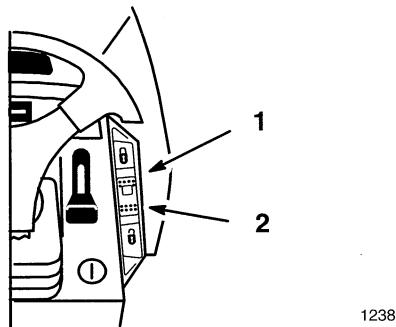

Figure 13
The cruise control is optional on some models. A 3 position: Lock-Set (spring loaded), On and Off-Unlock dash switch (Fig. 13) controls the engagement. Cruise control maintains the traction control position without foot pressure. Cruise control is intended for operation in the forward direction only. Do not use cruise control in reverse.
1. Begin driving tractor: Refer to Driving Forward or Backward, Page 13. While holding your foot steady on the traction control, push the cruise control switch (Fig. 13) to the "LOCK"-“SET” position.
1. While holding your foot steady on the traction control, move the cruise control switch (Fig. 13) to the "UNLOCK"-“OFF” position.